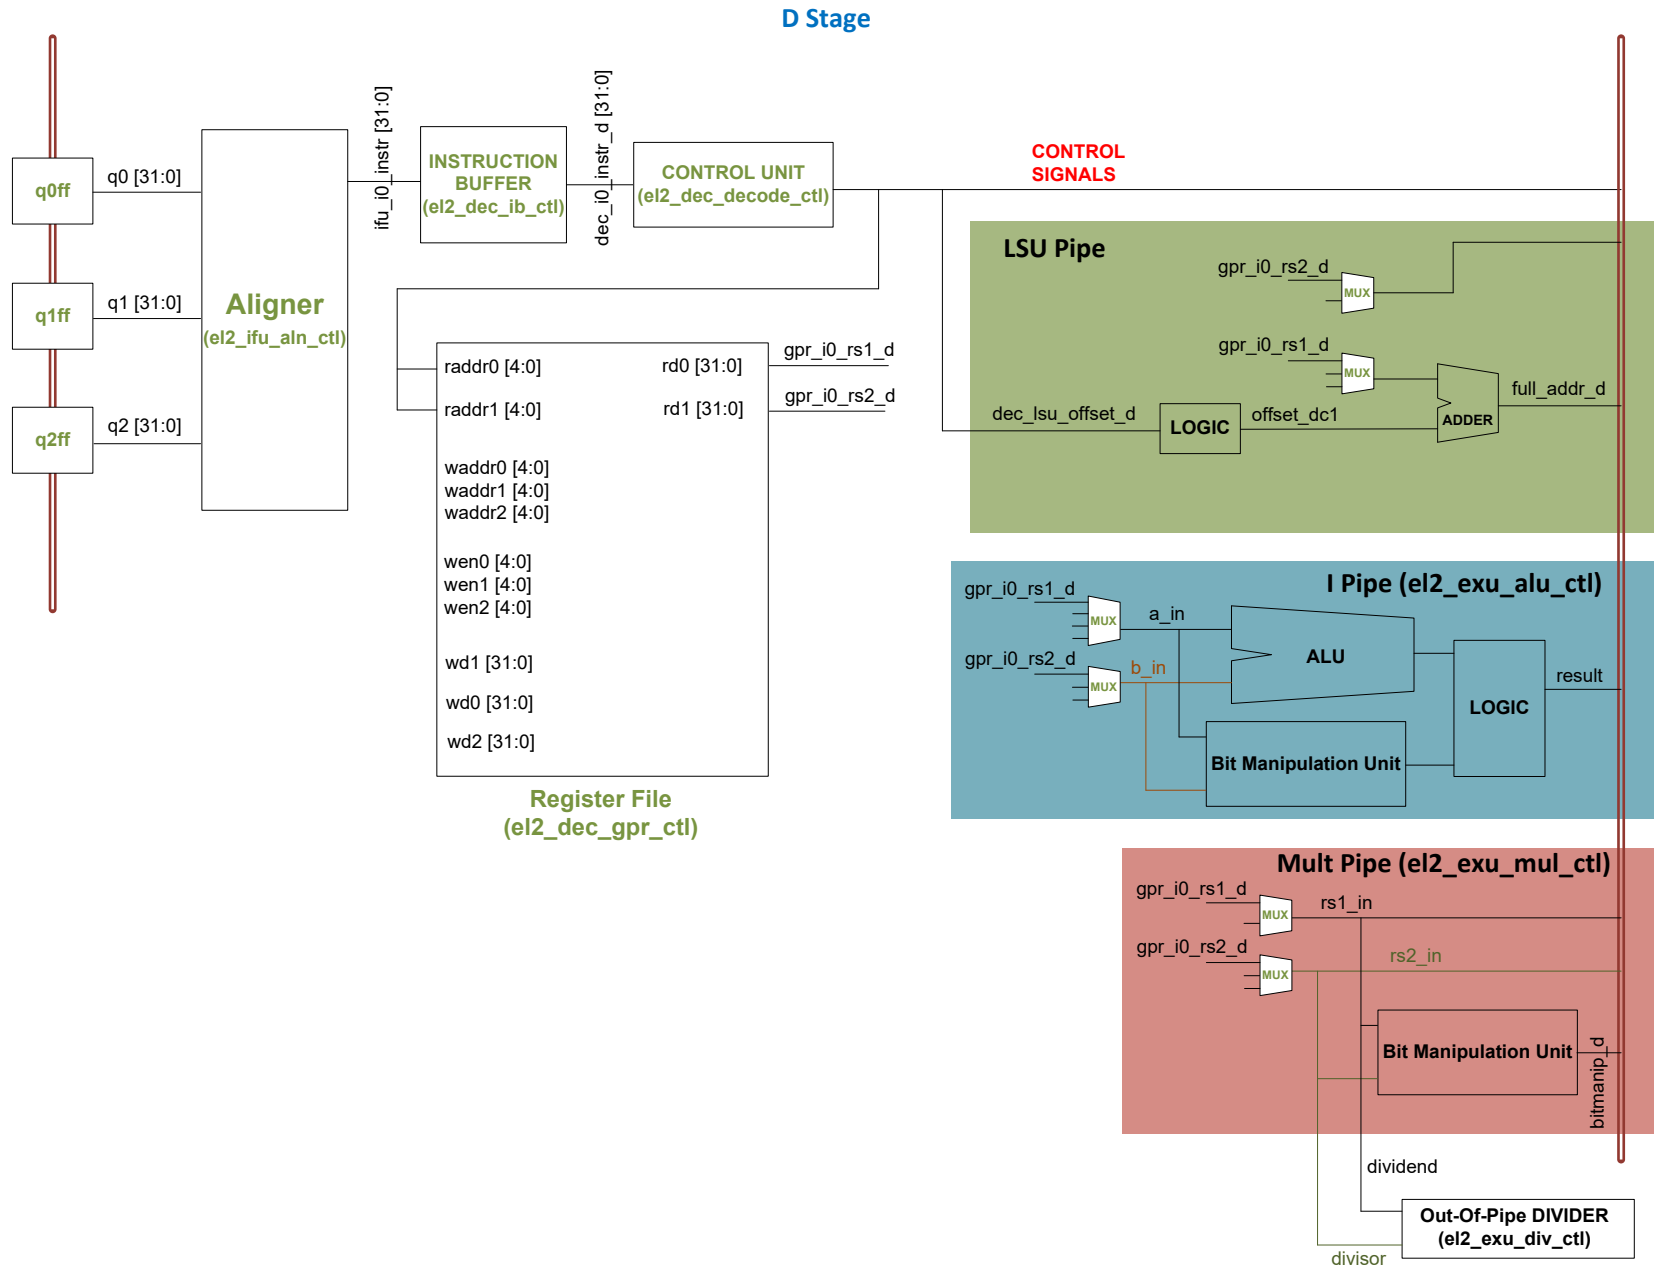

Figure 5. Simplified view of the D (Decode) Stage
In this section we analyse the D (Decode) Stage of the VeeR EL2 pipeline. Figure 5 illustrates a simplified view of this stage, which we will extend in future labs.
The Control Unit propagates these control signals to later pipeline stages using pipeline registers, which are placed between each pipeline stage (see Figure 5).
- **Distribute the instructions to the appropriate datapaths and provide the operands:** As shown in Figure 5, VeeR EL2 includes an Integer pipe (I), one Multiply pipe, and one Load/Store pipe (L/S). In addition, it includes a Divider which is outside the pipeline. Once the instruction is decoded, the processor sends it to one of four separate pipelines:
In addition to scheduling the instructions, the pipes must be provided with the corresponding operands. For that purpose, several 2:1, 3:1, and 4:1 multiplexers (see Figure 5) select among the possible operands and propagate them to the next stages using pipeline registers. These multiplexers are implemented in lines 232-265 of module **exu**. (Even though the multiplexers are inside the **exu** module, they operate in the D Stage). Their input operands can come from several places:
- **Bypass Logic:** Most data dependencies are resolved in the D Stage by means of bypassing, as we will analyse in Lab 14. The inputs coming from the Bypass Logic are not labelled in the 2:1, 3:1, and 4:1 multiplexers from Figure 5 for the sake of simplicity.
- **Immediate:** Some RISC-V instructions use Immediate Addressing Mode, in which the operand is provided directly from the instruction bits. The inputs coming from the Immediate are not shown in the 2:1, 3:1, and 4:1 multiplexers from Figure 5.
- **Register File:** The Register File available in the VeeR EL2 processor has 2 read ports and 3 write ports. The inputs coming from the Register File are shown in the 2:1, 3:1, and 4:1 multiplexers from Figure 5 using only the names of the signals. The connections to the Register File are not shown for the sake of simplicity.
Each read/write port has a 5-bit address (*raddr0 ...*, *waddr0 ...*), as well as a 1-bit enable signal for the write ports (*wen0 ...*), not shown in Figure 5. Write ports also have a 32-bit write data input (*wd0 ...*), and read ports have a 32-bit read data output (*rd0 ...*). The Register File contains 32 32-bit registers, called x0-x31, with x0 hardwired to 0.
I Pipe: The integer pipe is shown in blue in Figure 5. It includes a 1-cycle latency Arithmetic-Logic Unit (ALU) and a 1-cycle latency Bit Manipulation Unit (BMU). The ALU is capable of performing arithmetic operations such as *addition* or *subtraction*, as well as logical operations such as *and* or *or*. The BMU supports bit manipulation for Zba, Zbb, Zbc, Zbe, Zbf, Zbp, Zbr, Zbs extensions. In Lab 12 we will analyse the I pipe in further detail.
Multiply Pipe: The multiply pipe is shown in red in Figure 5. It includes a multiplier, that operates in the X Stage, and a second BMU, which operates in the D Stage and which performs bit manipulation instructions that are not performed in the I Pipe's BMU.
Load/Store (L/S) Pipe: The L/S pipe is shown in green in Figure 5. In Lab 13 we explore this pipeline path in depth. Both load and store instructions are executed through the L/S pipe. It includes several stages; during the D Stage, the Adder Unit calculates the address by adding the register base address and the immediate offset.
Divider: The divider is shown in white in Figure 5. It is a non-pipelined unit that requires several cycles to compute its result.